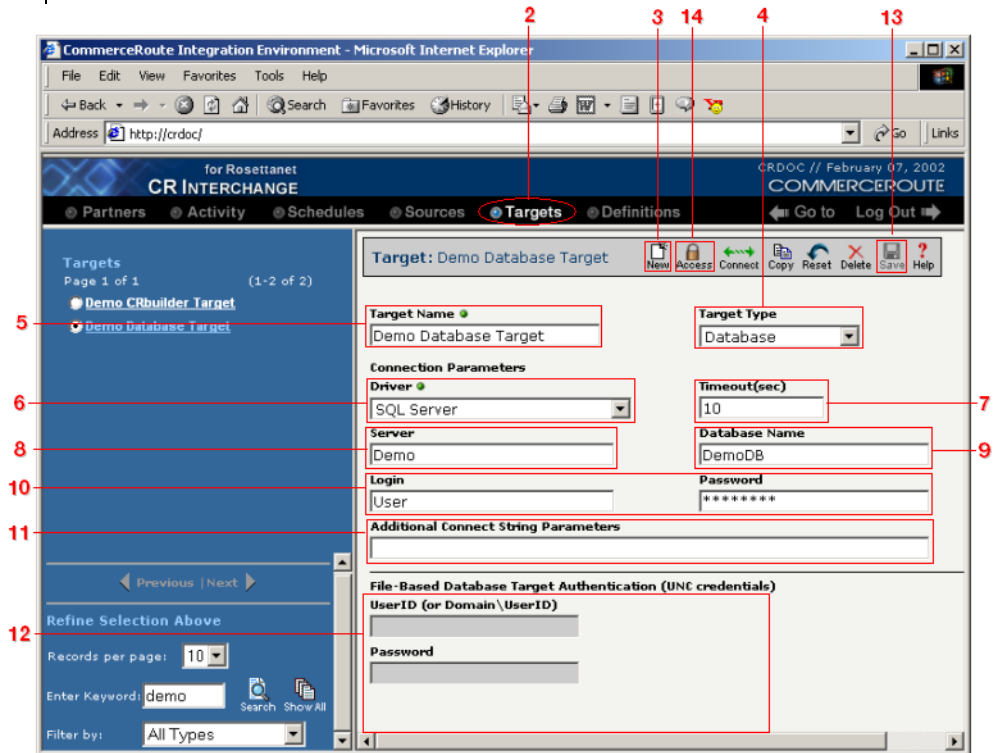

Figure 8-2. Follow the steps listed above to successfully define a new database target.
Follow these steps to create a new database target definition. Each step is marked in Figure 8-2 below.
- ❸ Click on the **New** button in the toolbar to create a new target definition.
- ❹ Choose **Database** from the **Target Type** drop-down menu.
- ❺ Enter an appropriate name for your new target in the **Target Name** field.
- ❻ Select the appropriate database driver from the **Driver** drop-down menu. Depending upon the driver you select, different fields may become enabled or disabled.
- ❼ (Optional) If you want to set a limit for how long to wait for a successful connection to the database, enter the number of seconds in the **Timeout** field.
- ❽ Enter the database server name (typically a name or IP address) you want to access into the **Server** field.
- ❾ For database types where the database name is not provided by the Server name, enter the appropriate value into the **Database Name** field.
- ❿ (Optional) Enter a username and password into their respective fields that will allow access to your database.
- ⓭ Click the **Save** button in the toolbar. Compare your definition to that shown in Figure 8-2 below.